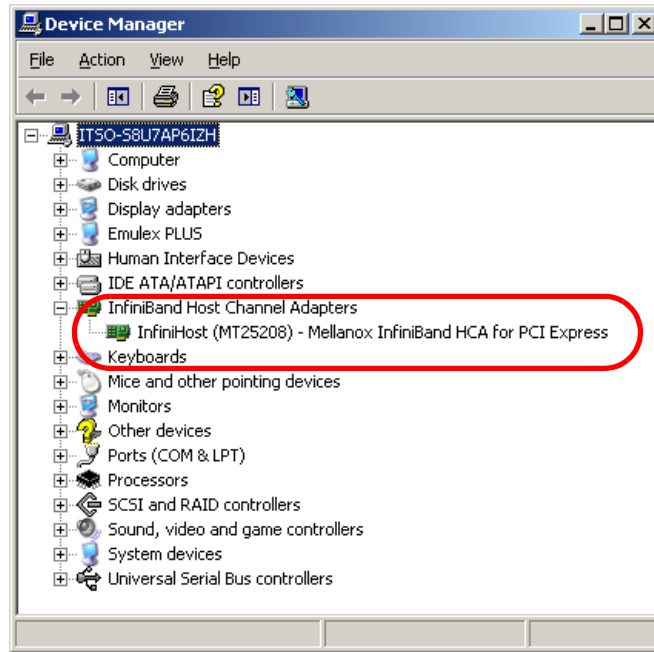

Figure 4-43 InfiniBand HCA in Windows Device Manager
7. Click **Next** to continue the driver installation. The Wizard finds and installs InfiniHost Mellanox InfiniBand HCA for PCI Express. When the driver installation is complete, you should see an entry for the HCA in device manager under InfiniBand Host Channel Adapters as shown in Figure 4-43.